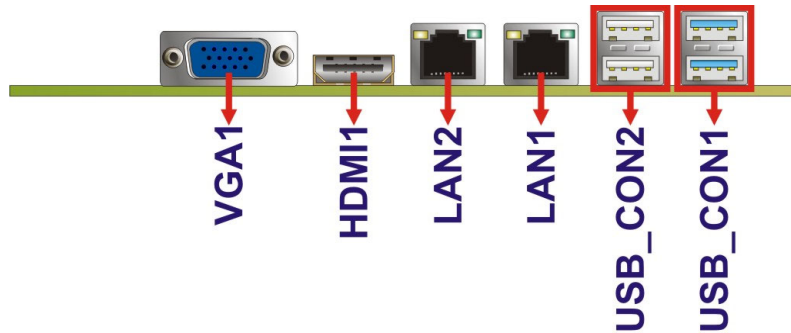

Figure 3-23: External Peripheral Interface Connector
CN Location: See Figure 3-23
See Figure 3-23
NANO-CV-D25501/N26001 EPIC SBC**3.3.3 USB 2.0 Connector****CN Label:** USB_CON2**CN Type:** Dual USB port**CN Location:** See **Figure 3-23****CN Pinouts:** See **Table 3-28**
Table 3-28: USB 2.0 Port Pinouts**3.3.4 USB 3.0 Connector****CN Label:** USB_CON1**CN Type:** Dual USB port**CN Location:** See **Figure 3-23****CN Pinouts:** See **Table 3-29**
- CN Location:** See **Figure 3-23**